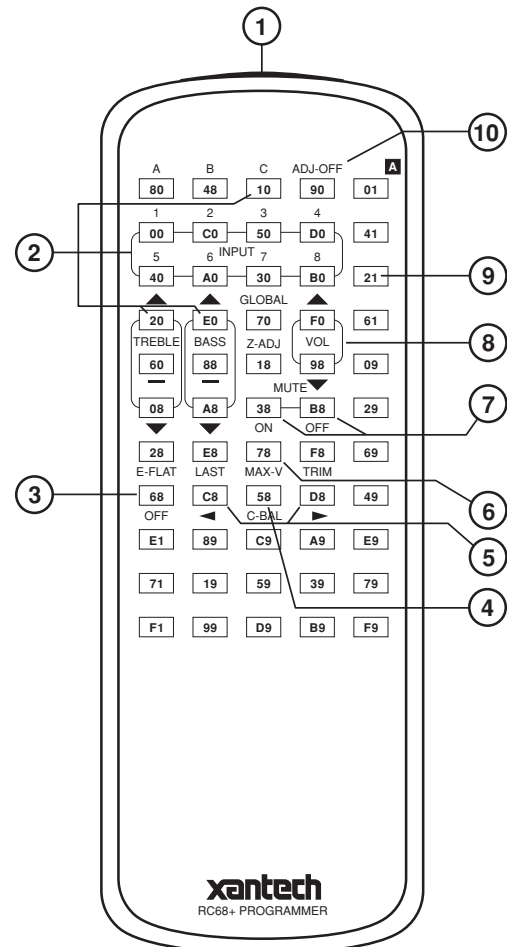

Fig. 4 The RC68+ Programmer
2. If mounted in an equipment cabinet or other confining location, allow at least 2 inches of space above the top cover (see **Fig. 4**). Be sure there are large openings in the shelf below the unit and in the cabinet to allow the entry of cool air and the escape of warm air.
7. After the Code Groups are set up, "teach" volume and other commands from the RC68+ Programmer (**Fig. 4**) into learning remote controls (and the keypads) dedicated to each room. Be sure to set the RC68+ to the specific Code Group Number that corresponds to the ones chosen for each of the amplifier pairs, during this "teaching" process.
5. The desired volume and other commands from the RC68+ Programmer (see **Fig. 4**) need to be "taught" into learning remote controls (such as the Xantech URC types) and Smart Pads used in the system, either directly or by using Dragon Drop IR™.